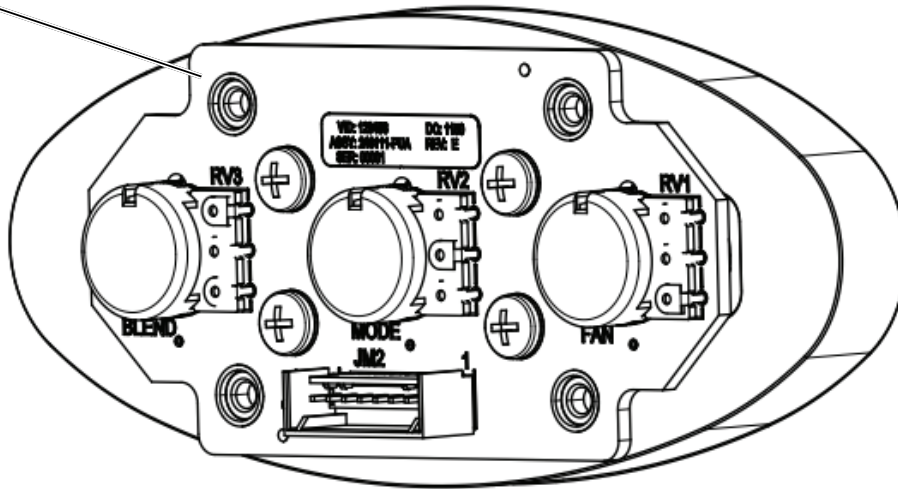

Figure 3
2. Install the control panel into the previously cut mounting hole (See Figures 3 and 4, below).